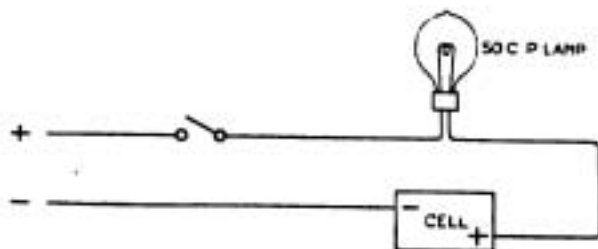

Fig. 3.
W.D.H. (Brighton).—Connect up as shown in Fig. 3, making sure that the positive of the supply is connected to the positive of the accumulator. Use one 50 candle-power 220-volt